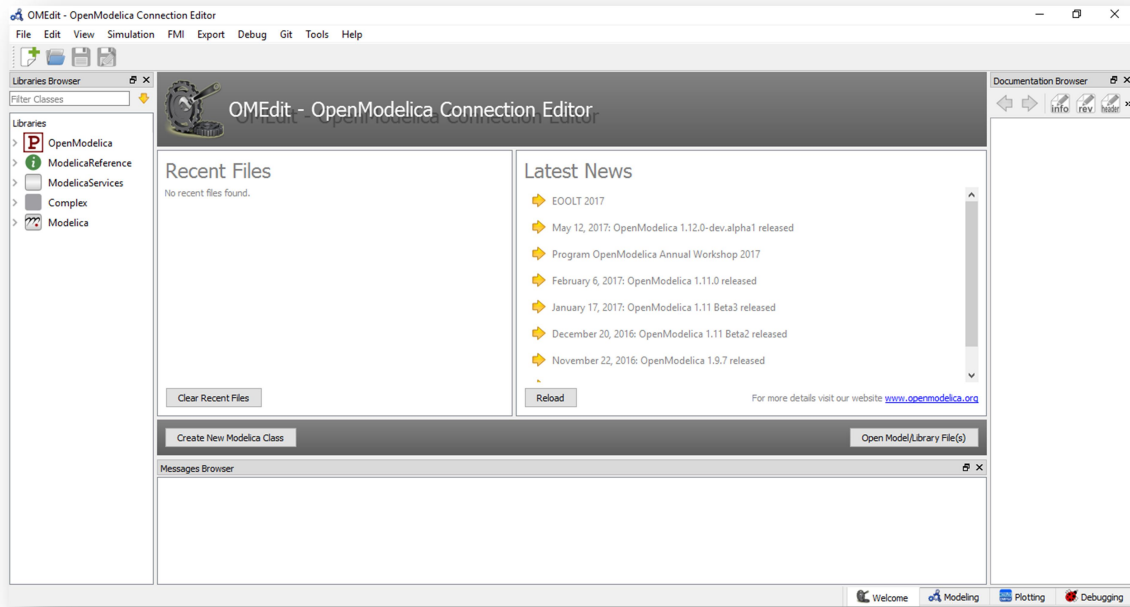

Fig 5.OMEdit
5. The simulation settings can be done by clicking on the ‘S’ symbol (Fig 5). If serial communication is successful, status shown will be zero.
5. The simulation settings can be by clicking on the 'S' symbol (Fig 5).